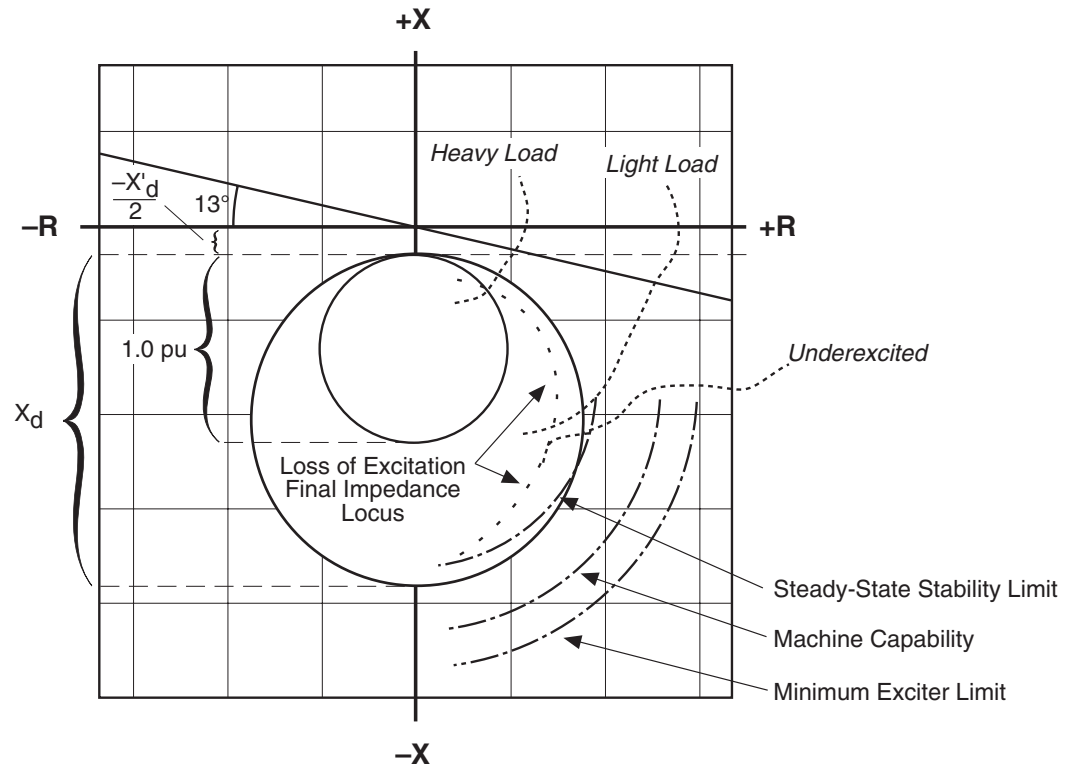
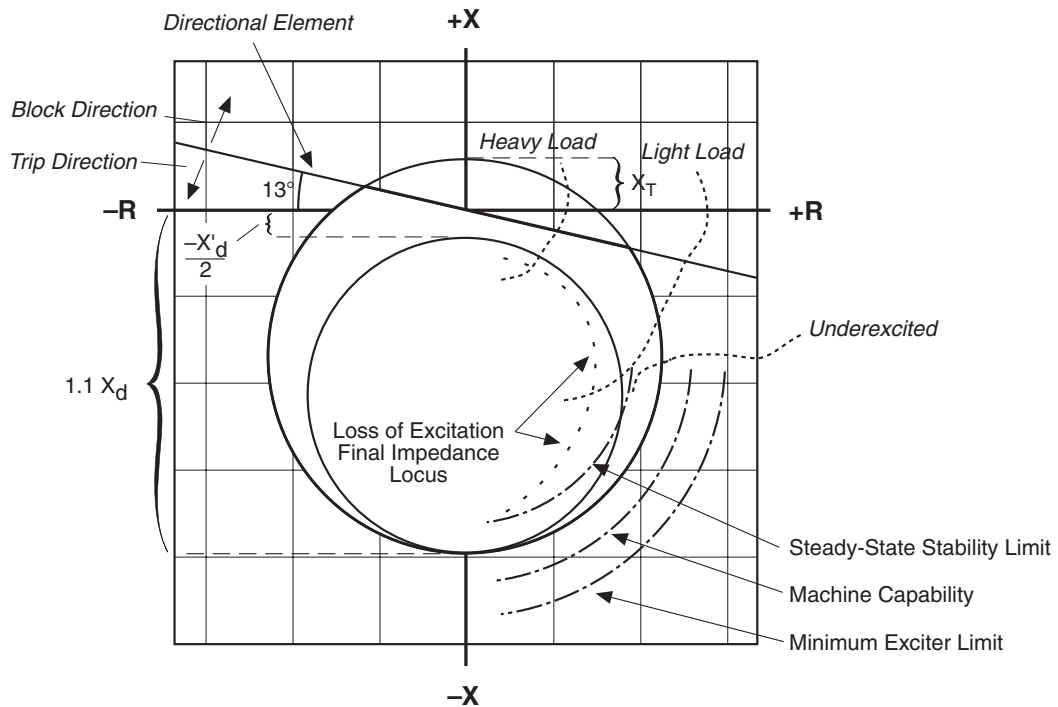

Figure 3-29 Loss-of-Field (40)—Protective Approach 1
Figure 3-30 Loss-of-Field (40)—Protective Approach 2
The loss-of-field function is implemented with two offset mho elements, an undervoltage element, and a directional element. The setting for each mho element, diameter, offset, and time delay, are adjusted individually. Voltage control may be enabled on each element, and the voltage control level setting is common. When voltage control is enabled, the measured positive sequence voltage must be less than the voltage control setting for the loss-of-field function to operate. The common directional unit is provided to block the relay operation during slightly underexcited conditions (since approach #1, Figure 3-29, with negative offset is inherently directional, the directional element is not required). The directional unit's zero sensitivity (torque) line is placed at -13° from the R axis.
The settings of the offset mho elements should be such that the relay detects the loss-of-field condition for any loading while not mis-operating during power swings and fault conditions. Two approaches are widely used in the industry, both of which are supported by the M-3410A relay. Both approaches require knowledge of the reactances and other parameters of the generator. They are illustrated in Figure 3-29, Loss-of-Field (40) – Protective Approach 1, and Figure 3-30, Loss-of-Field (40) – Protective Approach 2.
The first approach is shown in Figure 3-29. Here, both of the offset mho elements (#1 and #2) are set with an offset of $-X'_d/2$, where X'_d is the direct axis transient reactance (unsaturated) of the generator. The diameter of the smaller circle (#1) is set at 1.0 PU impedance on the machine base. This mho element detects loss-of-field from full load to about 30% load. A small time delay (5–10 cycles) provides fast protection.
The second approach is shown in Figure 3-30. In this approach, one of the mho elements is set with an offset of $-X'_d/2$, a diameter of $1.1 X_d - (X'_d/2)$, and a time delay of 10 to 30 Cycles. The second element is set to coordinate with the generator minimum excitation limit and steady-state stability limit.